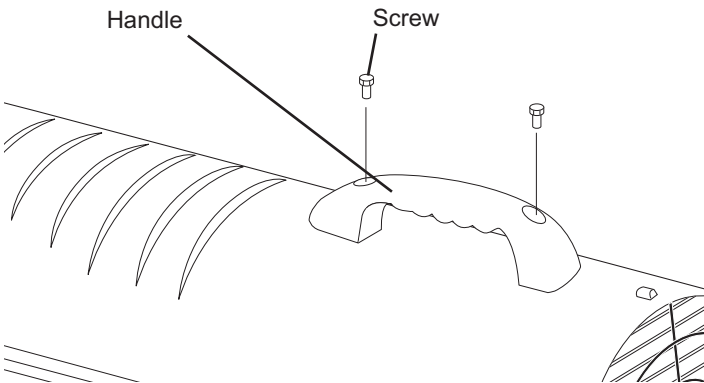

Figure 6. Handle Mounting, Models MH-45/70T-KFA
1. Align the holes in the upper housing with the 2 holes in the handle as shown in **Figure 6**.